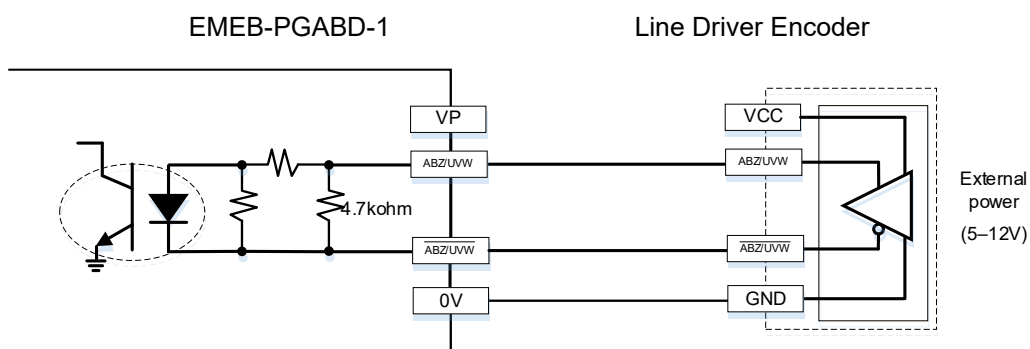

Figure 3-45
4. Line driver output encoder application: Each set of input current is 5–15 mA. If input voltage uses 12V power, connect the encoder power externally. See the PG wiring Figure 3-45 below.